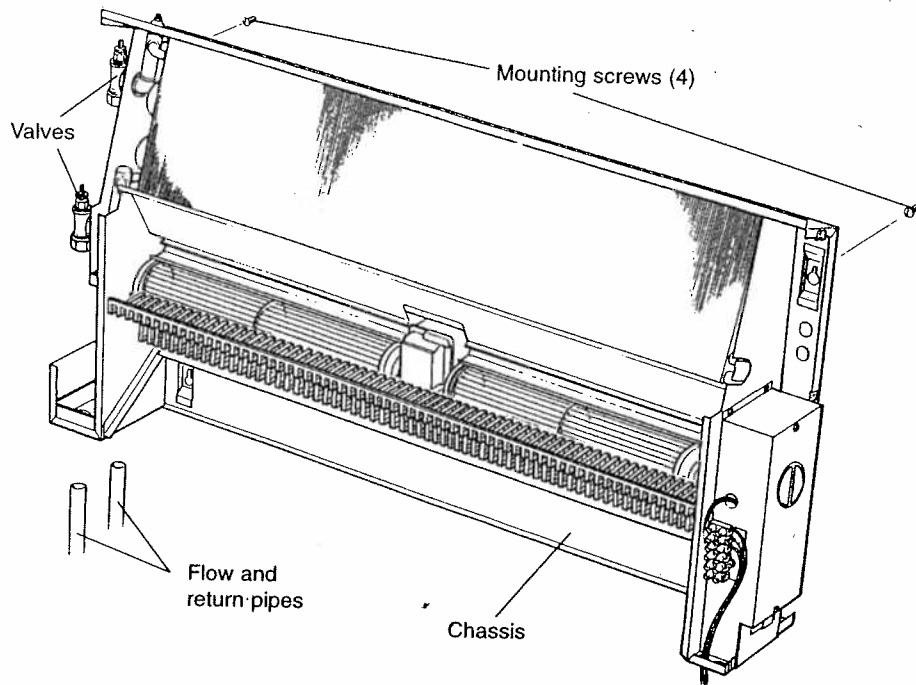

Fig. 5
2. Fit the isolating valves to the heat exchanger using a small amount of sealant, see Fig. 5.